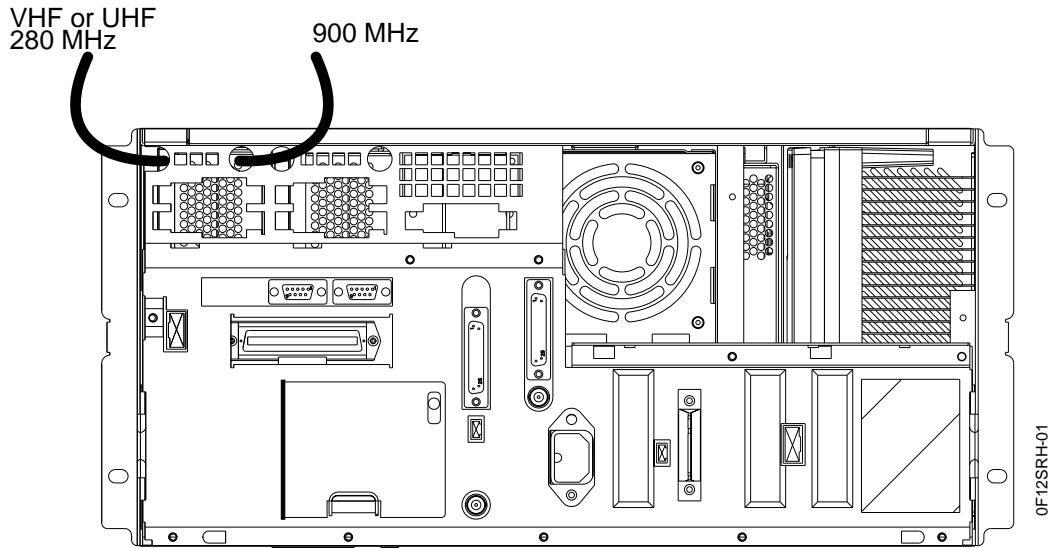

Figure D-4: Routing for the Receive Cable
4. At the rear of the station, route the receive input RF cable from the back of the antenna bracket through the hold in the station backplane (see Figure D-4):